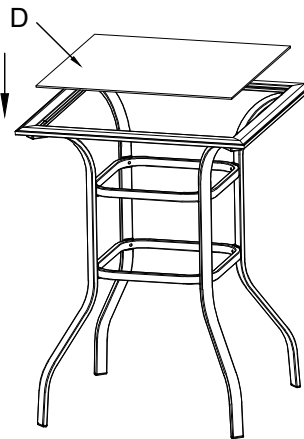

Fig.3
Step 3: Fully tighten all bolts and ensure all connections are secure before use. Turn the table right side up. Carefully place the glass (D) into the table frame (C). Please see Fig. 3.